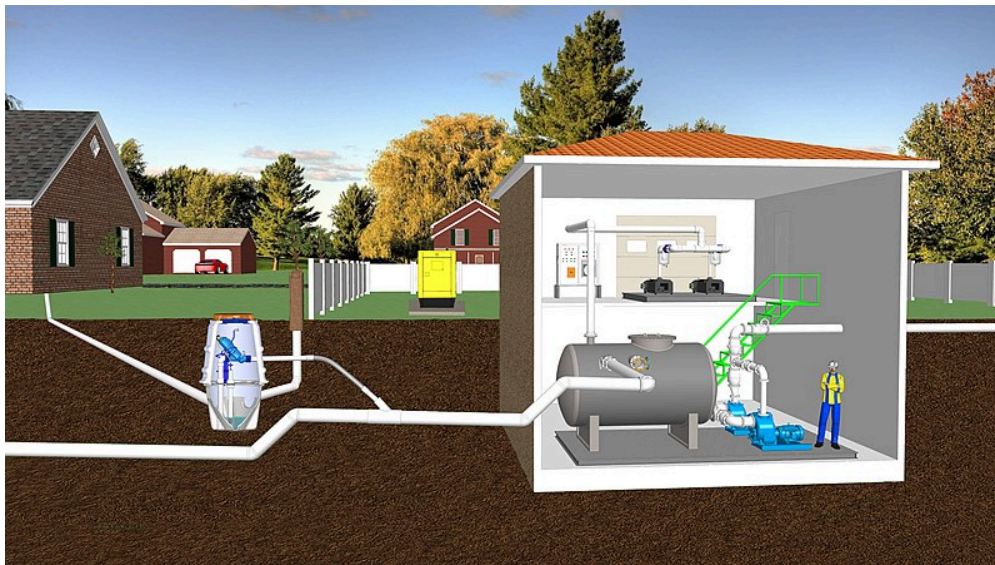

Figure 13 Vacuum sewer system
- Figure 13 Vacuum sewer system by Srstevens3 is licensed under a CC BY-SA 4.0 licence.